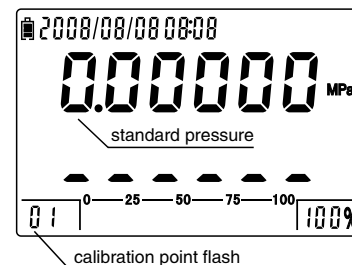
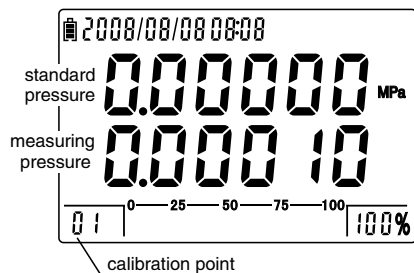
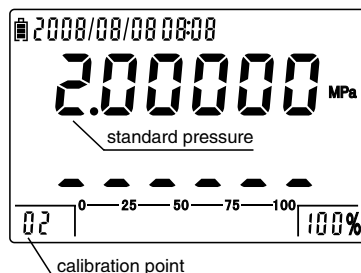
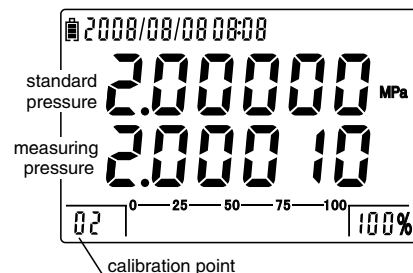

Figure 5-3-1: 1st point entrance
Figure 5-3-2: 1st point calibration
Figure 5-3-3: 2nd point entrance
Figure 5-3-4: 2nd calibration
- (1) Press  to enter into passport menu, input the password "2003" and press  to enter into calibration menu.
- (2) Select **IP_CAL** and press  to enter into the entrance interface. The **【01】** of left reading area is 1st calibration point, user can select point by using  . Please press  to start calibration. (as figure 5-3-1)
- (3) The first line flashes to remind user to input the standard pressure of 1st point. (In this example, it is 0.00000MPa)
- (4) As figure 5-3-2, screen displays the interface of 1st calibration point. Please supply 0.00000MPa pressure, and press  to finish the 1st point calibration after it is steady. As figure 5-3-3, screen switch to 2nd point calibration interface.
- (5) Under the interface of 2nd calibration point, the first line flashes for new standard pressure. In general, it is the default (In this example, it is 2.00000MPa), press  for next step.
- (6) As figure 5-3-4, screen displays the 2nd point calibration interface. Please supply 2.00000MPa pressure and press  to finish the 2nd point calibration after it is steady. The screen switches to the interface as figure 5-3-1, the calibration is finished.
- (7) Press  to return to the calibration function menu. The calibration is effective if **2P_0** changed to **2P_1**.